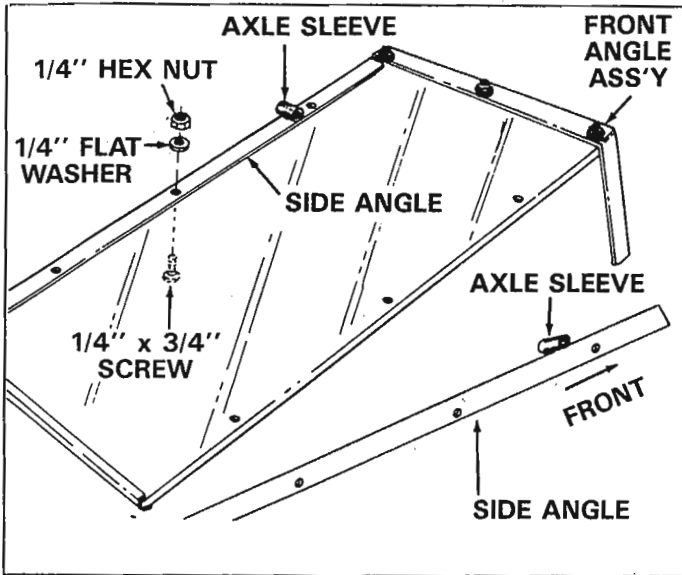

FIGURE 3
- Turn front angle assembly and bottom panel upside down as shown in figure 3.
- Lay the two side angles on bottom panel so that the axle sleeves are towards the front angle assembly. See figure 3.
- Secure the two side angle assemblies to the bottom panel with six 1/4" x 3/4" truss head screws, flatwashers and hex nuts. Only make finger tight, until all six screws are in place, then tighten securely. See figure 3.